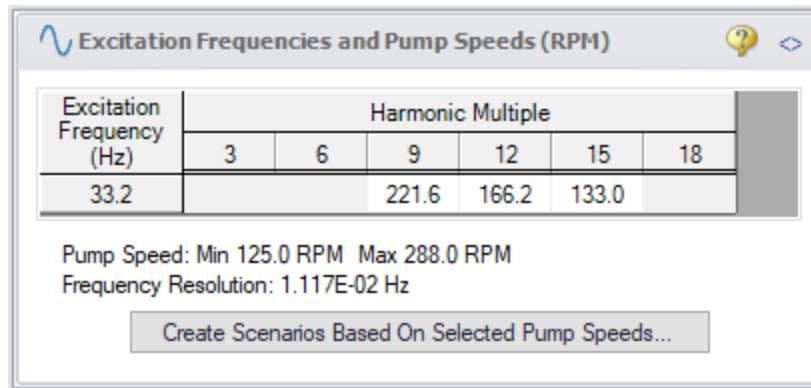

Figure 13: Pump RPM Evaluation panel
- d. Select Evaluate Excitation Frequency to add this frequency to the Pump RPM Evaluation panel, which is labeled with Excitation Frequencies and Pump Speeds (RPM) (see Figure 13)